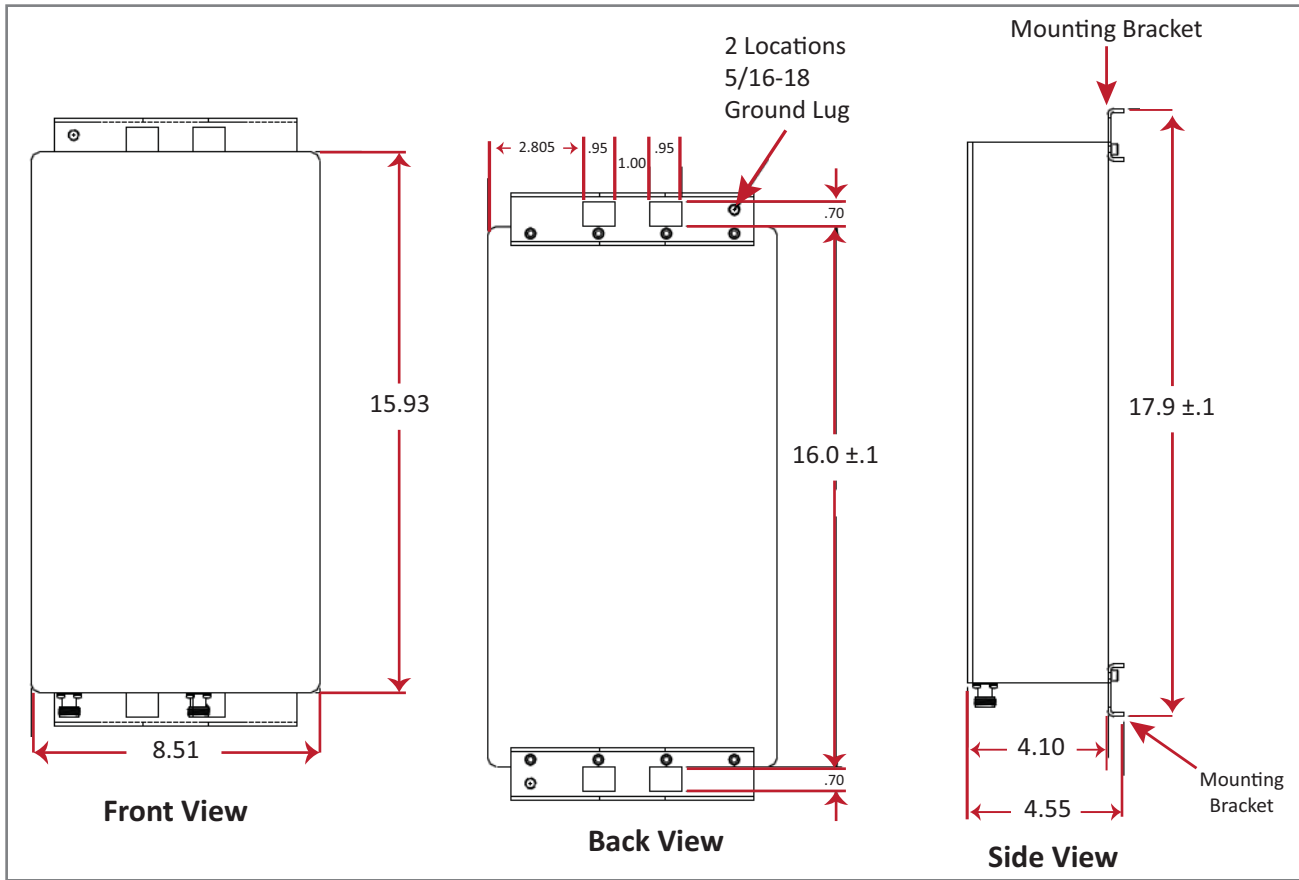
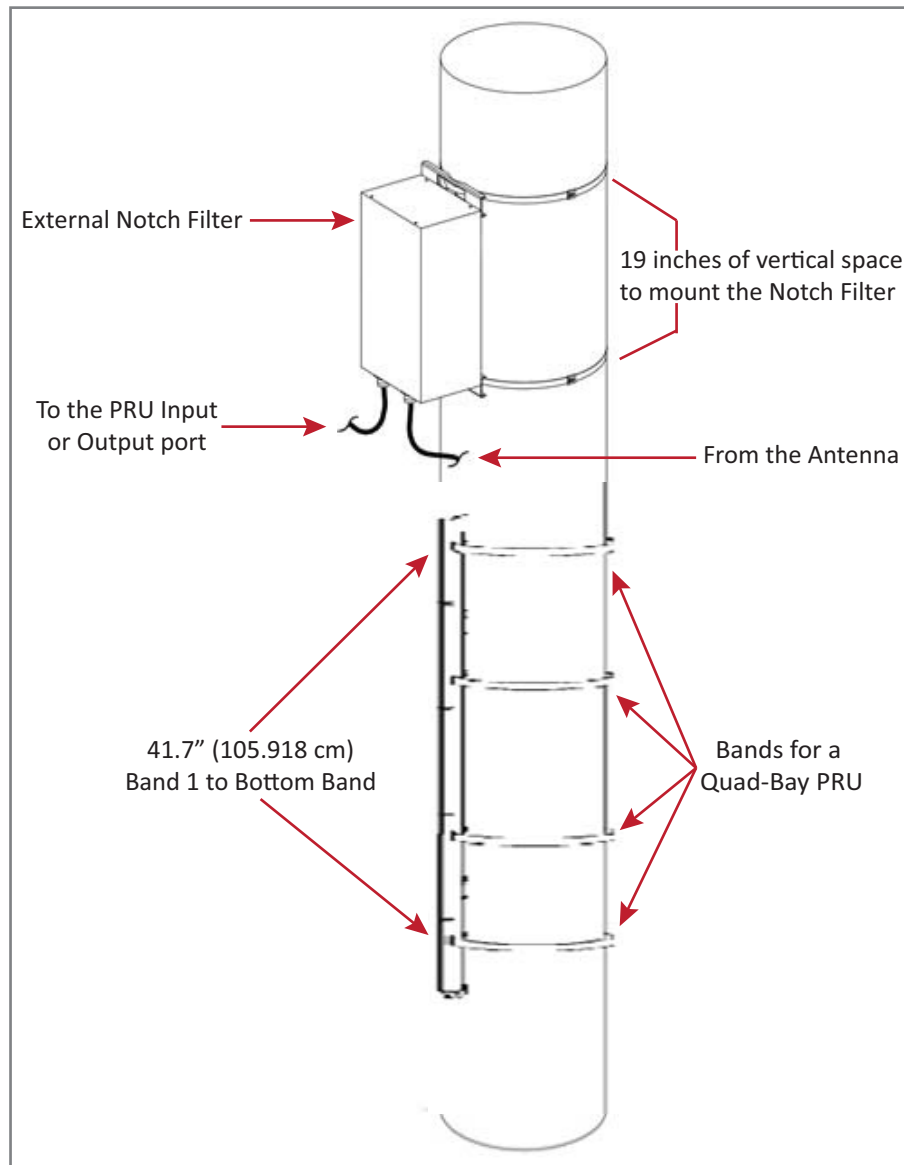

Figure 35. Notch Filter Mounting Dimensions
Figure 36. Pole Mounting a Quad-Bay PRU with a Notch Filter
- The Notch Filter and its mounting brackets requires 19 inches of vertical space above the PRU (see Figure 35 and Figure 36 on page 110).
Figure 35 provides the dimensions required to create a mounting template. (For full technical specifications, see Table 26 on page 116.)